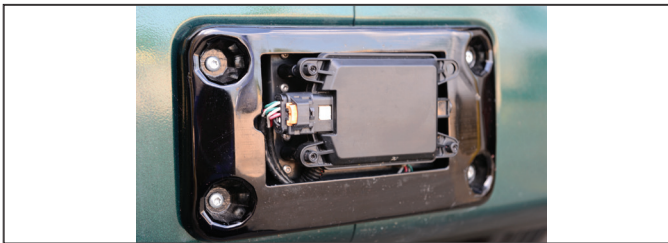

Figure K1 – Component: Radar Sensor
1. A Bendix™ FLR-21™ radar is located at the front of the vehicle – either on the bumper or just behind it on a cross-member. See Figure K1.